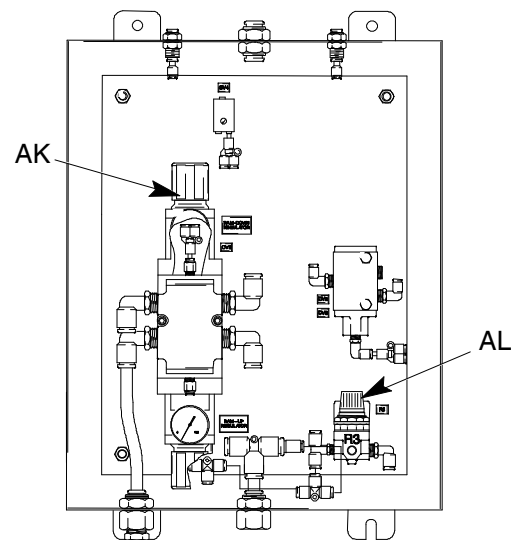

FIG. 17
2. Fully lower the ram by setting the RAM POSITION Switch (AG) to LOWER. Leave the switch in the LOWER position.
3. Open the door on the Pneumatic Logic Panel (G).
4. Adjust the air pressure to 0 PSI for the RAM DOWN Air Regulator (AK). Refer to the gauge on the RAM DOWN Air Regulator (AK) and R3 Regulator (AL) to verify the ram has been depressurized. See FIG. 17.
5. Slowly open the drain cock located on the bottom of the air cylinders (CL).
6. After the air pressure has been relieved, remove the Ram Down air line running from the top of the Pneumatic Logic Panel (G) to the ram cross bar (CB).
7. Close the Main Air Shutoff Valve (P) on header.
9. After service is complete, close drain cocks and make all pneumatic connections and open the Main Air Shutoff Valve (P) to header. Perform the **Adjusting the RAM UP and RAM DOWN Air Regulators** procedure, page 30.